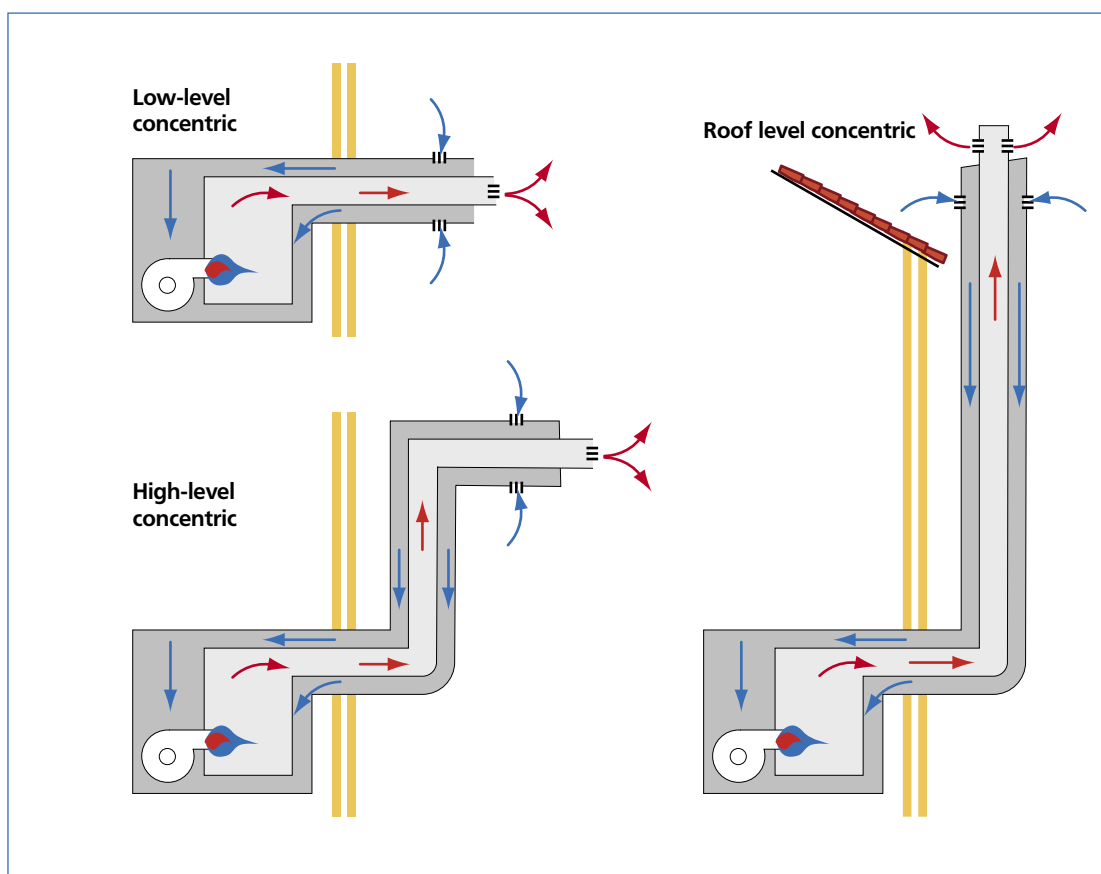

Figure 10: Extended concentric balanced flues
- Extended and vertical balanced flues are available for many condensing boilers using concentric ducts. In some cases these allow flue lengths of over 6m, with a number of bends. (see figure 10).